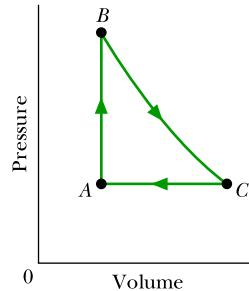

Figure 18.18 Problem 48.
**48 M GO** As a gas is held within a closed chamber, it passes through the cycle shown in Fig. 18.18. Determine the energy transferred by the system as heat during constant-pressure process  $CA$  if the energy added as heat  $Q_{AB}$  during constant-volume process  $AB$  is 20.0 J, no energy is transferred as heat during adiabatic process  $BC$ , and the net work done during the cycle is 15.0 J.